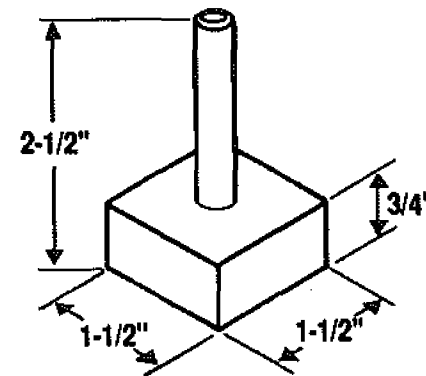

Fig. 73
3. Make a "feeler gauge" to accurately gauge the distance between the table and the upper tie bars. Glue a 2-1/2" length of 3/8"-diameter hardwood dowel in a scrap of wood 3/4" x 1-1/2" x 1-1/2". See Fig. 73.